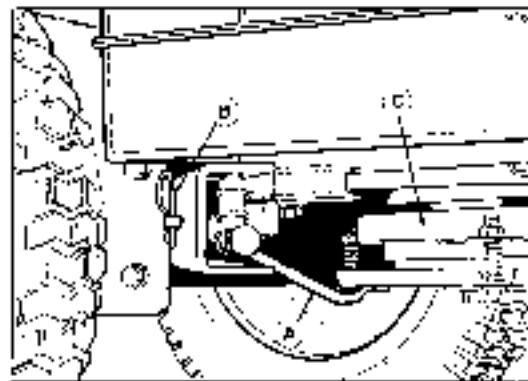

Figure 25. Anti-Spin Rod
6. To remove mower drive belt from electric clutch (PTO) pulley, the anti-spin rod (A) must be removed. Refer to figure 25.
- a. Remove spring clip (B) from anti-spin rod outside rider frame.
4. Anti-siphon rod must be reinstalled for operation. Electric clutch will be immediately damaged if operated without anti-siphon rod. Refer to figure 25. Install rod to electric clutch. Insert other end through frame and secure with spring clip.